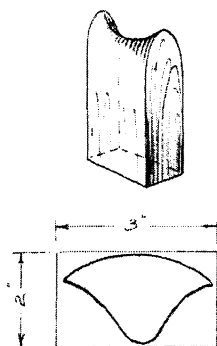

FIG. 5
6. Make the spout (Fig. 5). Shape a piece of wood as shown.